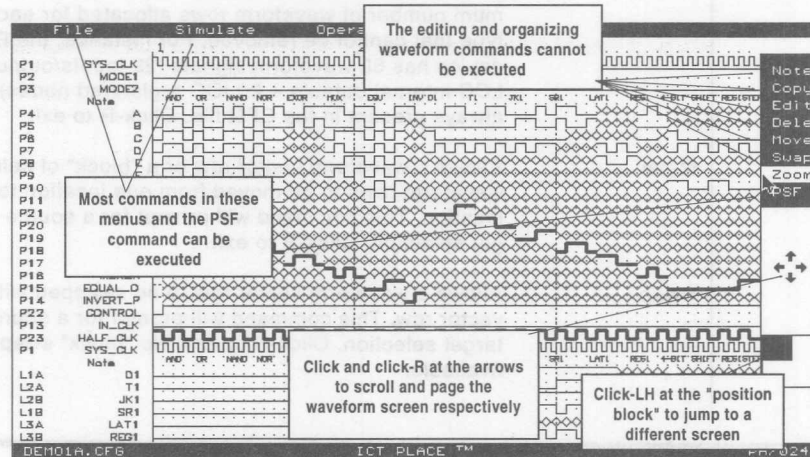

Figure 11-50. Mode A of the "Zoom" waveform screen
- In Mode A, almost all commands in the Simulate operation can be executed. These commands include file read and save, simulate, capture, or the PSF command (section 11.21). Some of the commands not executable in Mode A are the Note, Edit, Erase, Copy, Move and Swap commands. See Figure 11-50. If you click-R in Mode A, you will be returned to the normal waveform screen mode.